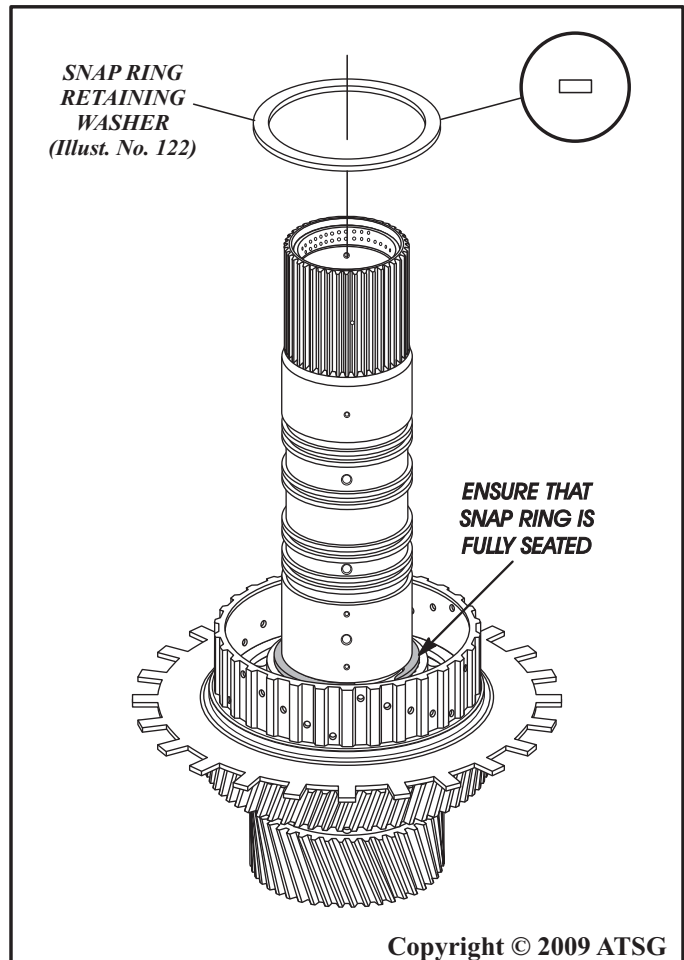

Figure 123
15. Install the snap ring retaining washer, as shown in Figure 123, and retain with Trans-Jel®.